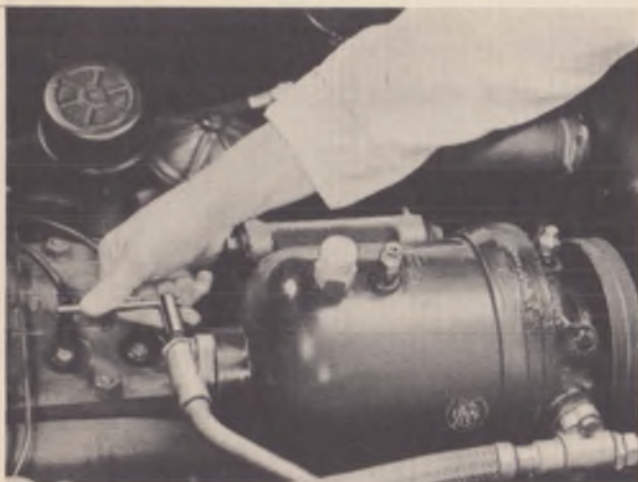

Fig. 4
8. Watch both gauges and allow the compressor to operate until the low side pressure gauge reads 0 (zero) pounds. Then stop the engine and close the high pressure hand shutoff valve at the compressor using Valve Key J-5427. See Figure 4.